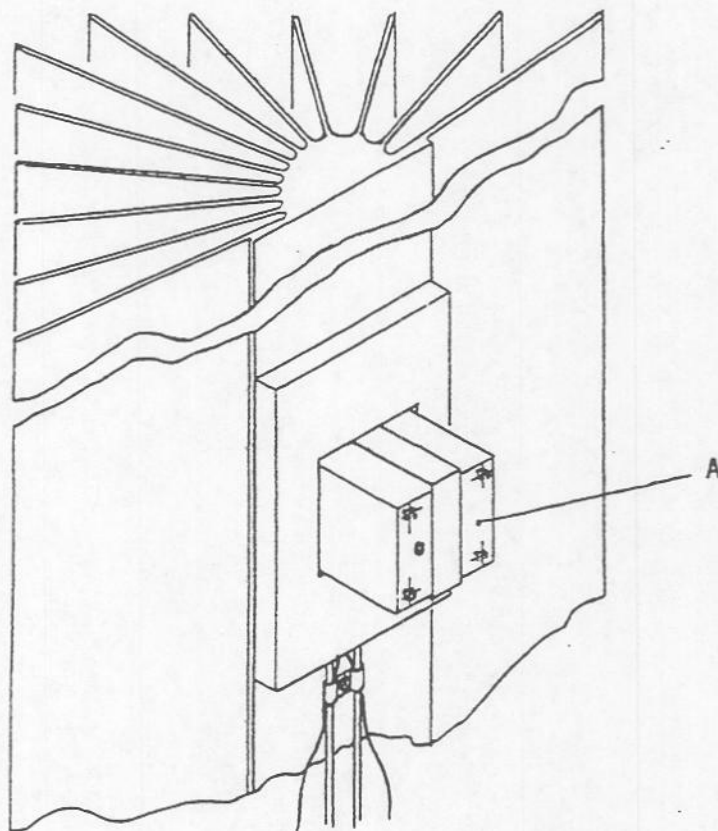

Figure 12
Note: T.E. Assembly #1 Page 26 Figure 12 (PN A-7437 contains Thermistor BLOCK).
1. Thoroughly wipe clean the top surface of the module support (Page 27 Figure 12) and the mounting surface in the corner mounting cavity.